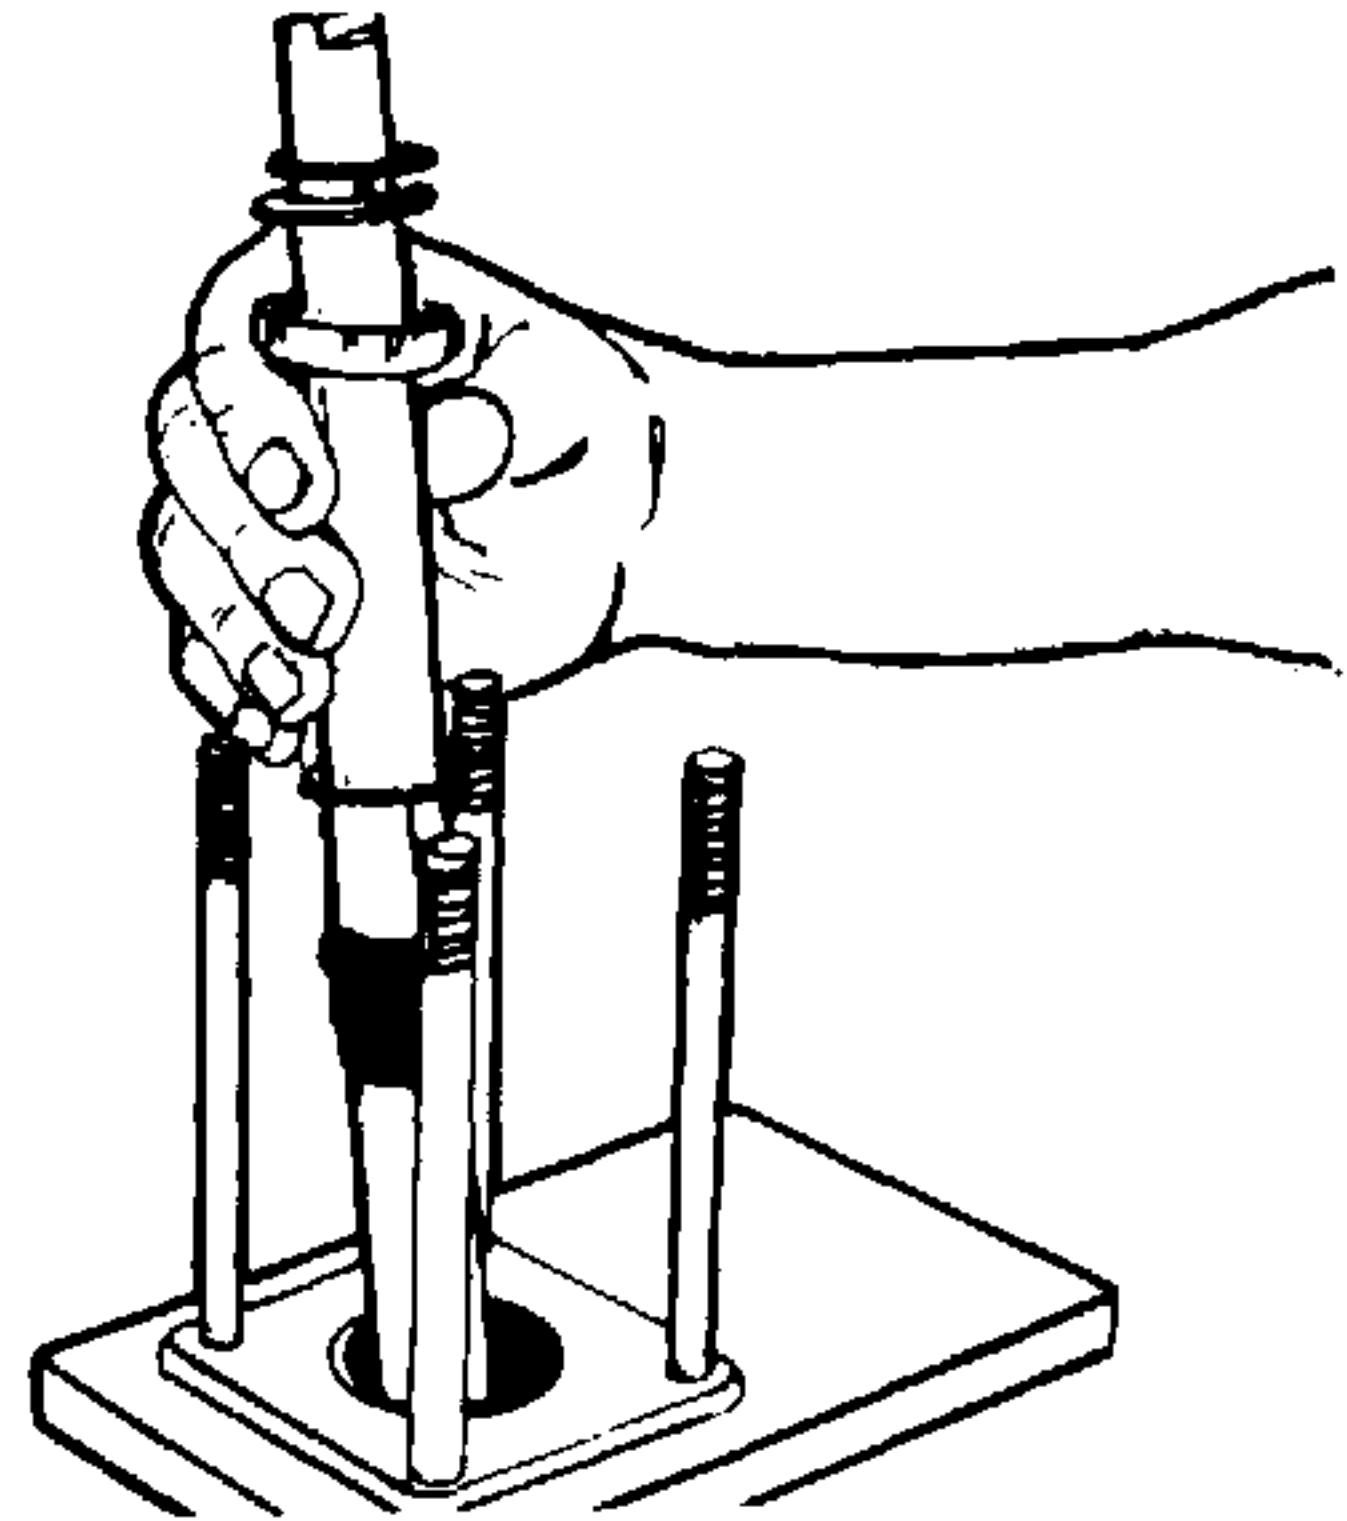

Figure 4-37. Removing Input Shaft Assembly.
43. Remove the input shaft assembly (31, Figure 4-1) sliding it out of the upper cover end of the assembly. See Figure 4-37.